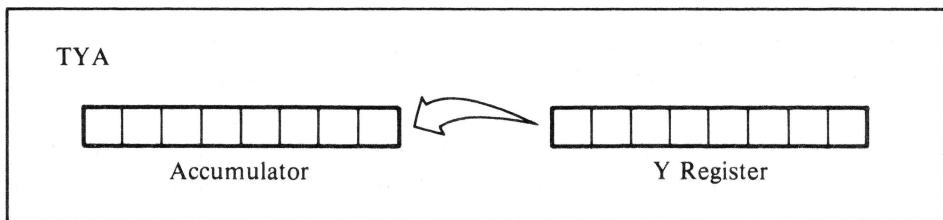

Figure 8-8. Transfer from Y register to accumulator
- TYA — Transfers the contents of the Y register to the accumulator (see Figure 8-8).